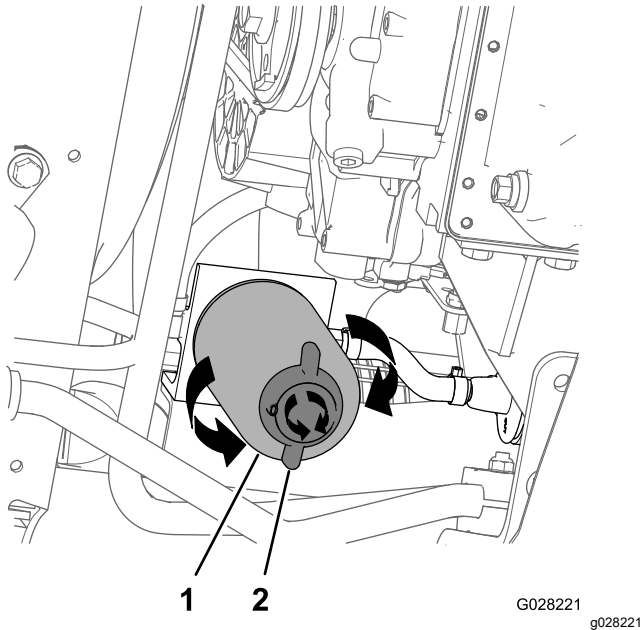

Figure 80
- Align a drain pan under the fuel filter; refer to Figure 80 in Replacing the Water-Separator Filter \(page 62\).
2. Place a drain pan under the water-separator filter (Figure 80).
3. Rotate the drain valve at the bottom of the water-separator filter counterclockwise (Figure 80).
4. Clean the area around the water-separator filter and filter-adapter mount (Figure 80).
5. Remove the water-separator filter (Figure 80).
9. Ensure that the drain valve at the bottom of the water-separator filter is rotated clockwise tightly (Figure 80).